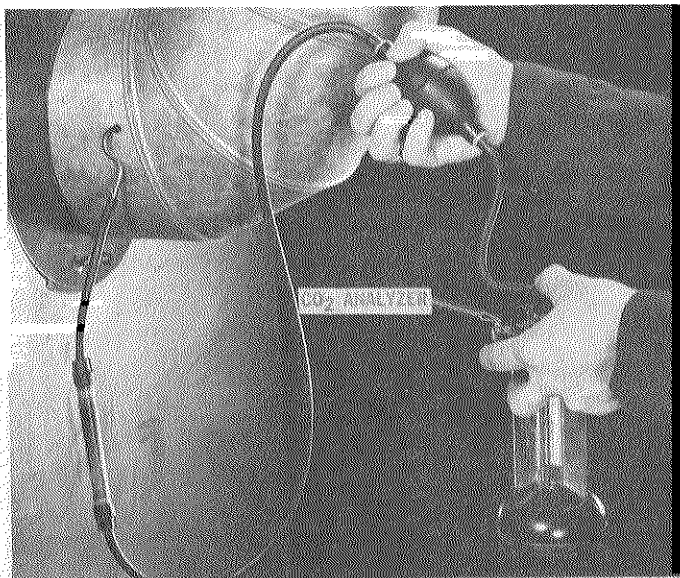

FIGURE 24
- 5 - Take a CO₂ reading at the service opening in stack using a Fyrite CO₂ indicator or other standard CO₂ analyzers. Refer to Figure 24. Instructions for operating the analyzer are packed with it and should be carefully followed. If the CO₂ reading is between 8 to 10 percent, the setting is correct. If not, rotate the air control cover and recheck until CO₂ readings fall within the 8 to 10 percent range. Tighten the air control locking screw.